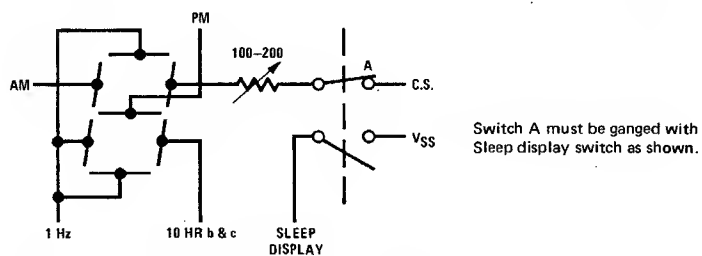

FIGURE 6. 24-Hour Operation: 10's of Hours Digit Connections
**12 or 24-Hour Select Input:** By leaving this pin unconnected, the outputs for the most-significant display digit (10's of hours) are programmed to provide a 12-hour display format. An internal pull-down depletion device is again provided. Connecting this pin to  $V_{SS}$  programs the 24-hour display format. See *Figure 6* for 24-hour application.